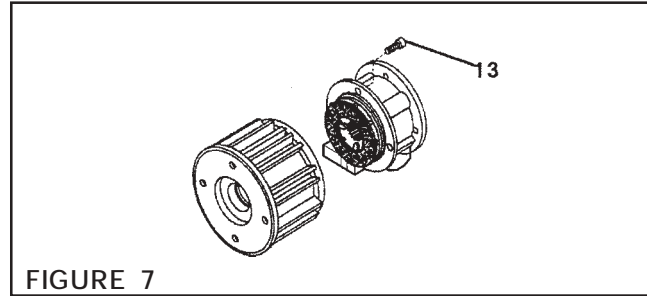

FIGURE 7
1. Remove the four Socket Head Cap Screws (Item 13) and separate the two halves of the FMCBE (See Figure 7).